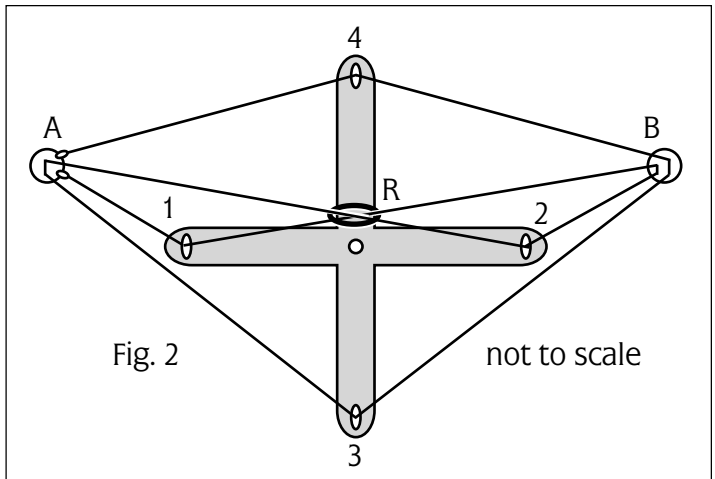

Fig. 2
17. Refer to Figure 2. Find centers of two wood strips and drill hole big enough for machine screw. Notch one of the strips so they will fit snugly and firmly together in an X. Screw a screw-eye into the top of each end of the X. Fasten the X to the center hole of the aluminum strap as shown, screw-eyes up.
18. Attach a snap swivel to one end of the light line; this is point A in Figure 2. Put the other swivel at B and the nylon washer at R. Lace the line through the screw-eyes and snap swivels as follows: A, 1, R, B, 2, R, A, 3, B, 4, A. Secure the loose end to swivel A. Even out the lines and be certain that there are no snags and tangles so the line runs freely.